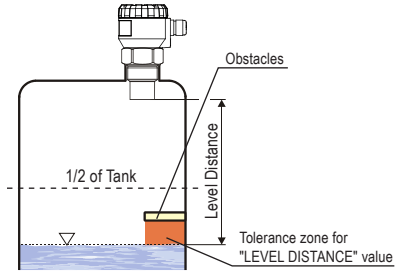

Fig. 17: The "Level distance" zone
2. Now it is shown the item "TEACHING". By pressing set the value "LEVEL DISTANCE" (distance to the level) – supposed distance from the face of the sensor to the medium level. If the distance to the level is not precisely known, enter a value rather lower (in the tolerance field as shown in Fig. 17).